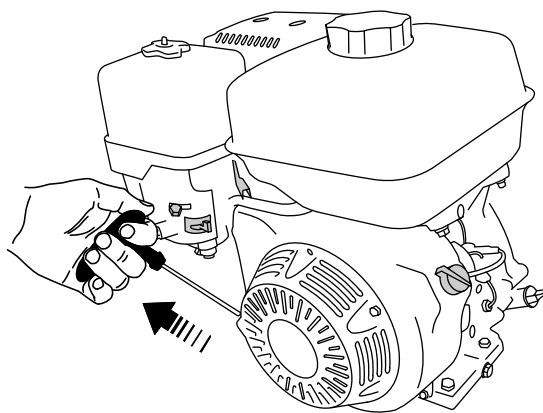

Figure 31
6. Pull the recoil-start handle lightly until you feel resistance, then pull the handle briskly. Return the recoil-start handle gently (Figure 31).